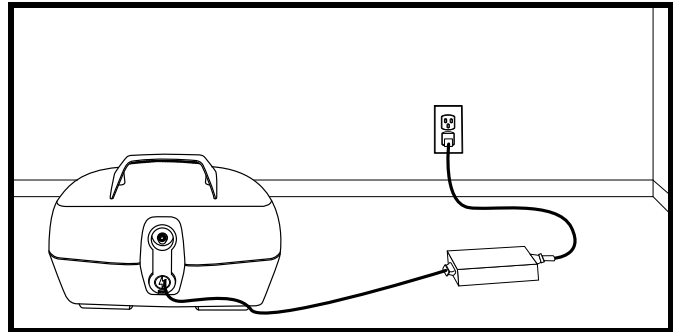

Figure 15. Charging The Batteries (Battery Pack Removed)
1. Position your Travel Scooter or battery pack close to a standard electrical outlet. See **figure 15 and 15A**.